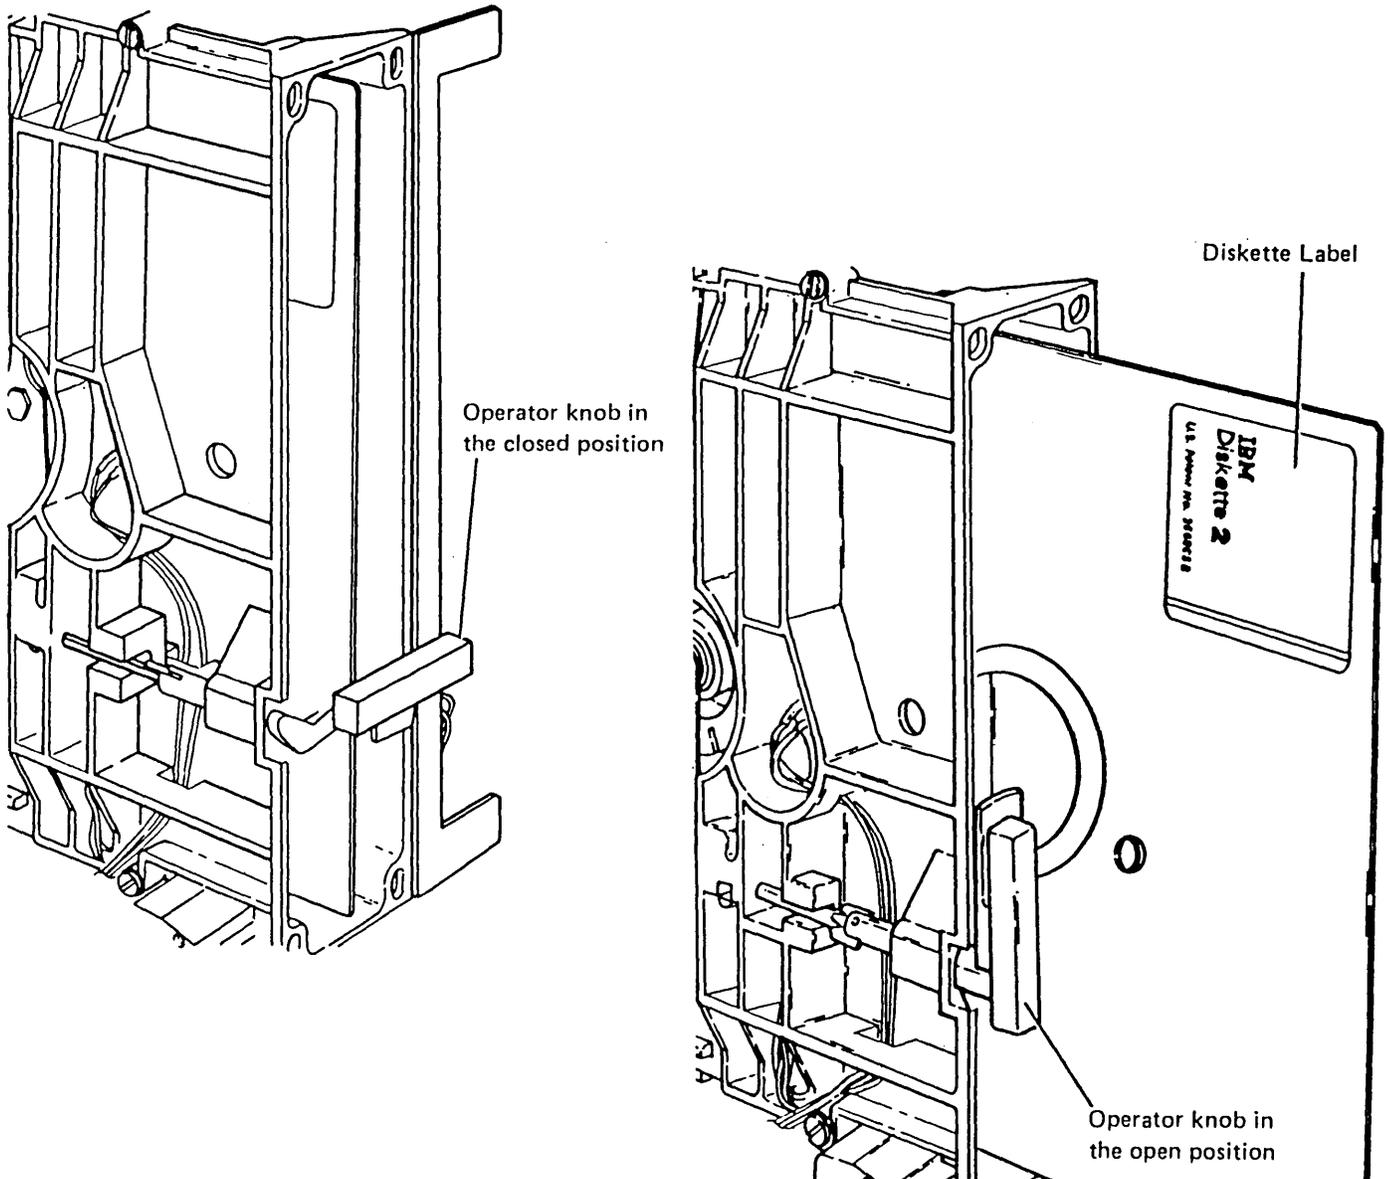

Figure F-3. Diskette Insertion
F.1.1.2 Diskette Insertion and Removal (Figure F-3)